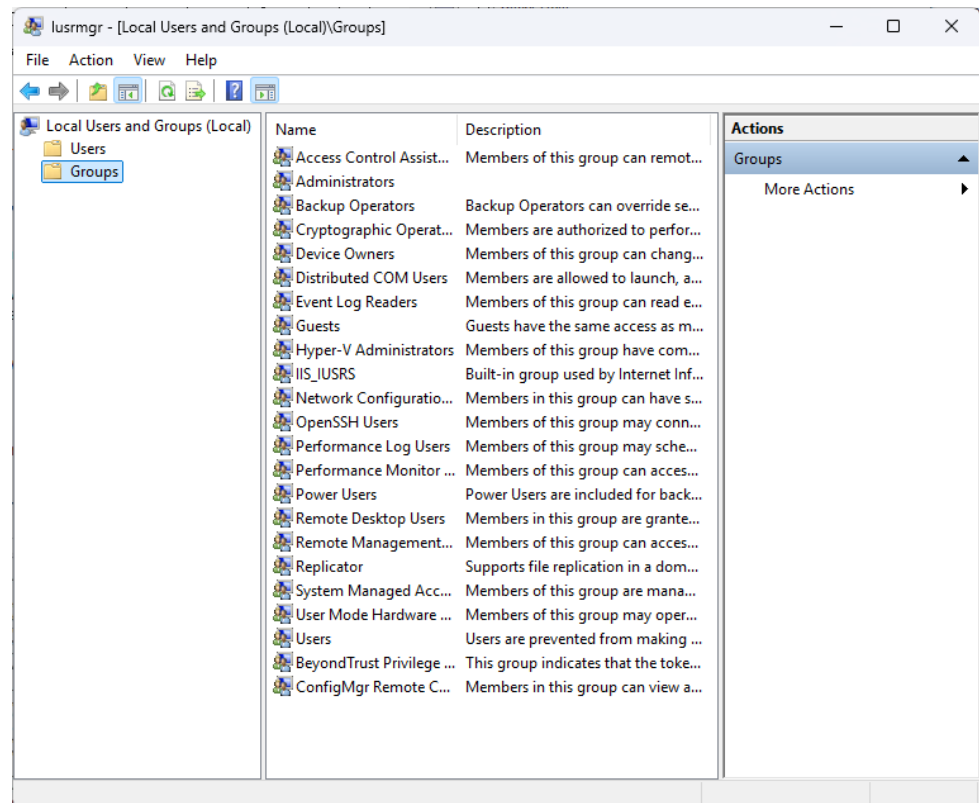

Figure 13: Local Users and Groups Window
3. With the Local Users and Groups window open, open the "Groups" folder (see Figure 13).